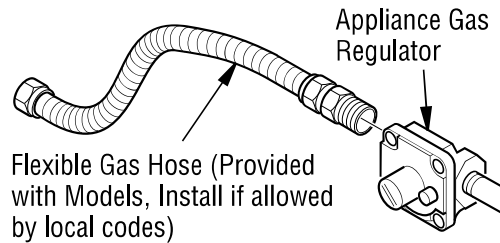

Figure 10 - Attaching Flexible Gas Hose to Appliance Gas Regulator
1. Apply pipe joint sealant lightly to male threads of the 3/8 NPT side of gas fitting elbow (provided) and connect to inlet side of gas control. Remove gas fitting from flexible gas hose (provided) before connecting to elbow (see *Figure 10*).